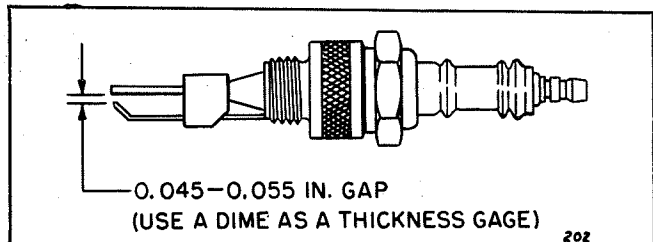

Figure 3. Spark Plug Gap Setting
2. Remove the spark plug from the burner head and check the gap between the electrodes. The gap must be within the limits given in Figure 3. This is about the thickness of a dime.